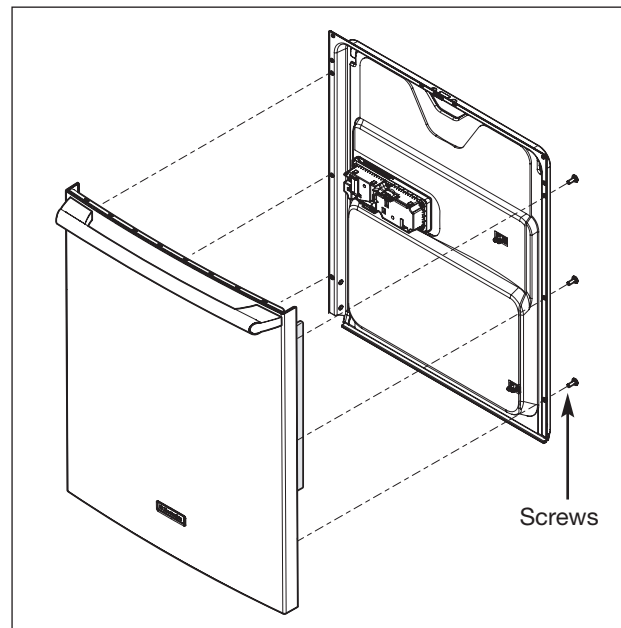

Figure 5-2. Outer Door Panel Removal
2. Extract six (6) screws from outer edge of the door inner panel using a #20 Torx bit screw driver. While extracting the screws, support the outer panel to prevent damage from occurring as the panel drops free. (See Figure 5-2)